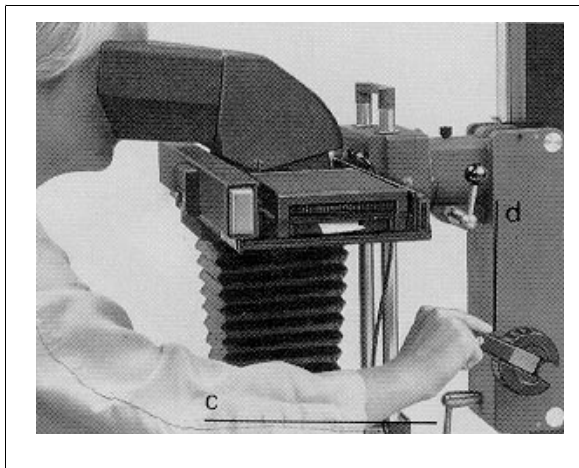

Figure 3-10. Adjusting Camera Height
5. Size and focus the image. Turn the locking lever (c, figure 3-10) counterclockwise to release the carriage. While viewing the image on the ground glass, turn the crank (d) to adjust the height of the camera until the image on the ground glass is about the required size.